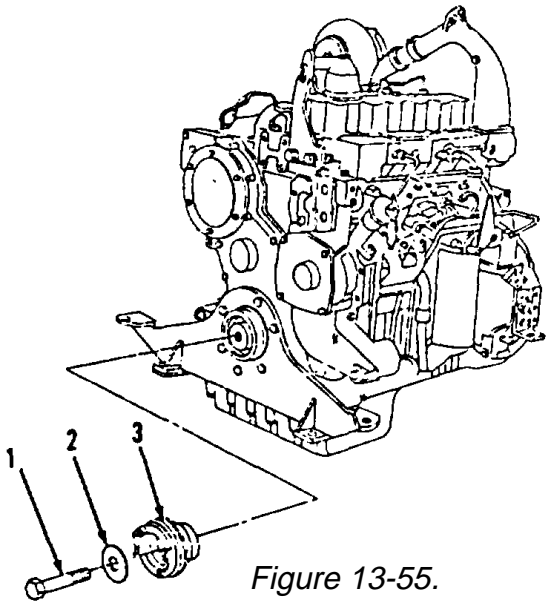

Figure 13-55.
- 19. Install hub (3), washer (2) and bolt (1, Figure 13-55) to front of crankshaft. Tighten bolt (1) to 230 ft-lb torque.